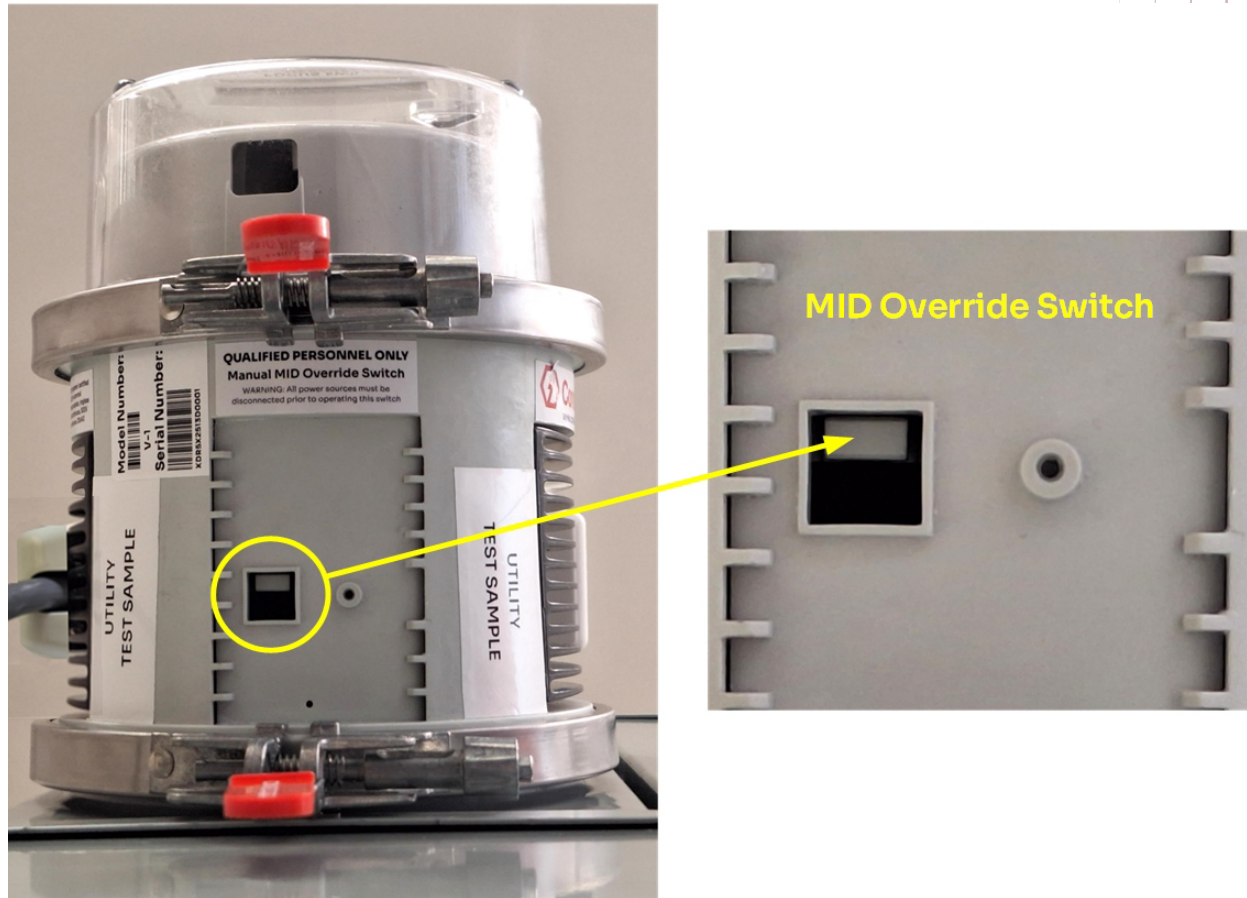

Figure 38. Manual MID Override Switch (exposed, after removing the cover).
3. Remove the Manual MID Override Switch cover using a #0 or #1 Philips screwdriver to reveal the square port and the Manual MID Override Switch. See Figure 38.